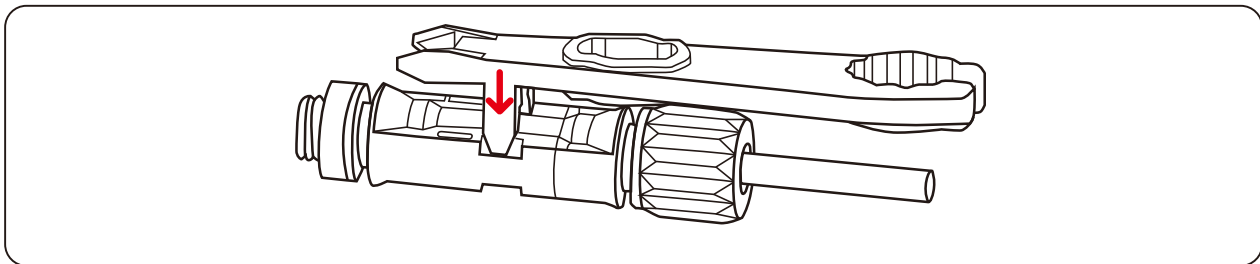

Figure 8.1 Removing DC input connector
**Step 1:** Disconnect all cables from the inverter, including communications cables, DC input Power cables, AC output power cables, and PGND cables, as shown in Figure 8.1.